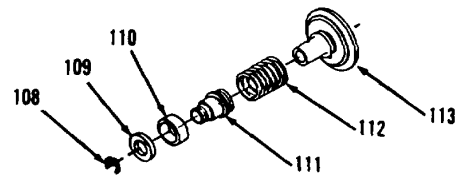
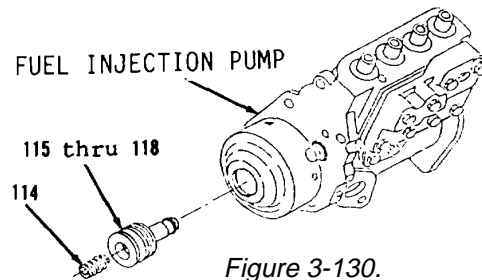

Figure 3-129.
Figure 3-130.
14. Remove ring (108) from seat (111, Figure 3-129).
15. Separate ring (109), spool (110), seat (111), spring (112) and seat (113).
16. Remove spring (114, Figure 3-130) and items 115 thru 118 as an assembly.